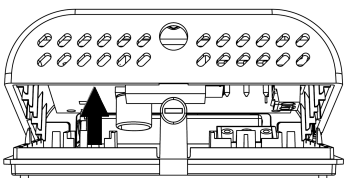

Fig. 5
- 3 Lift up the cover, while pressing it slightly, until it is fully extracted (Fig. 5).